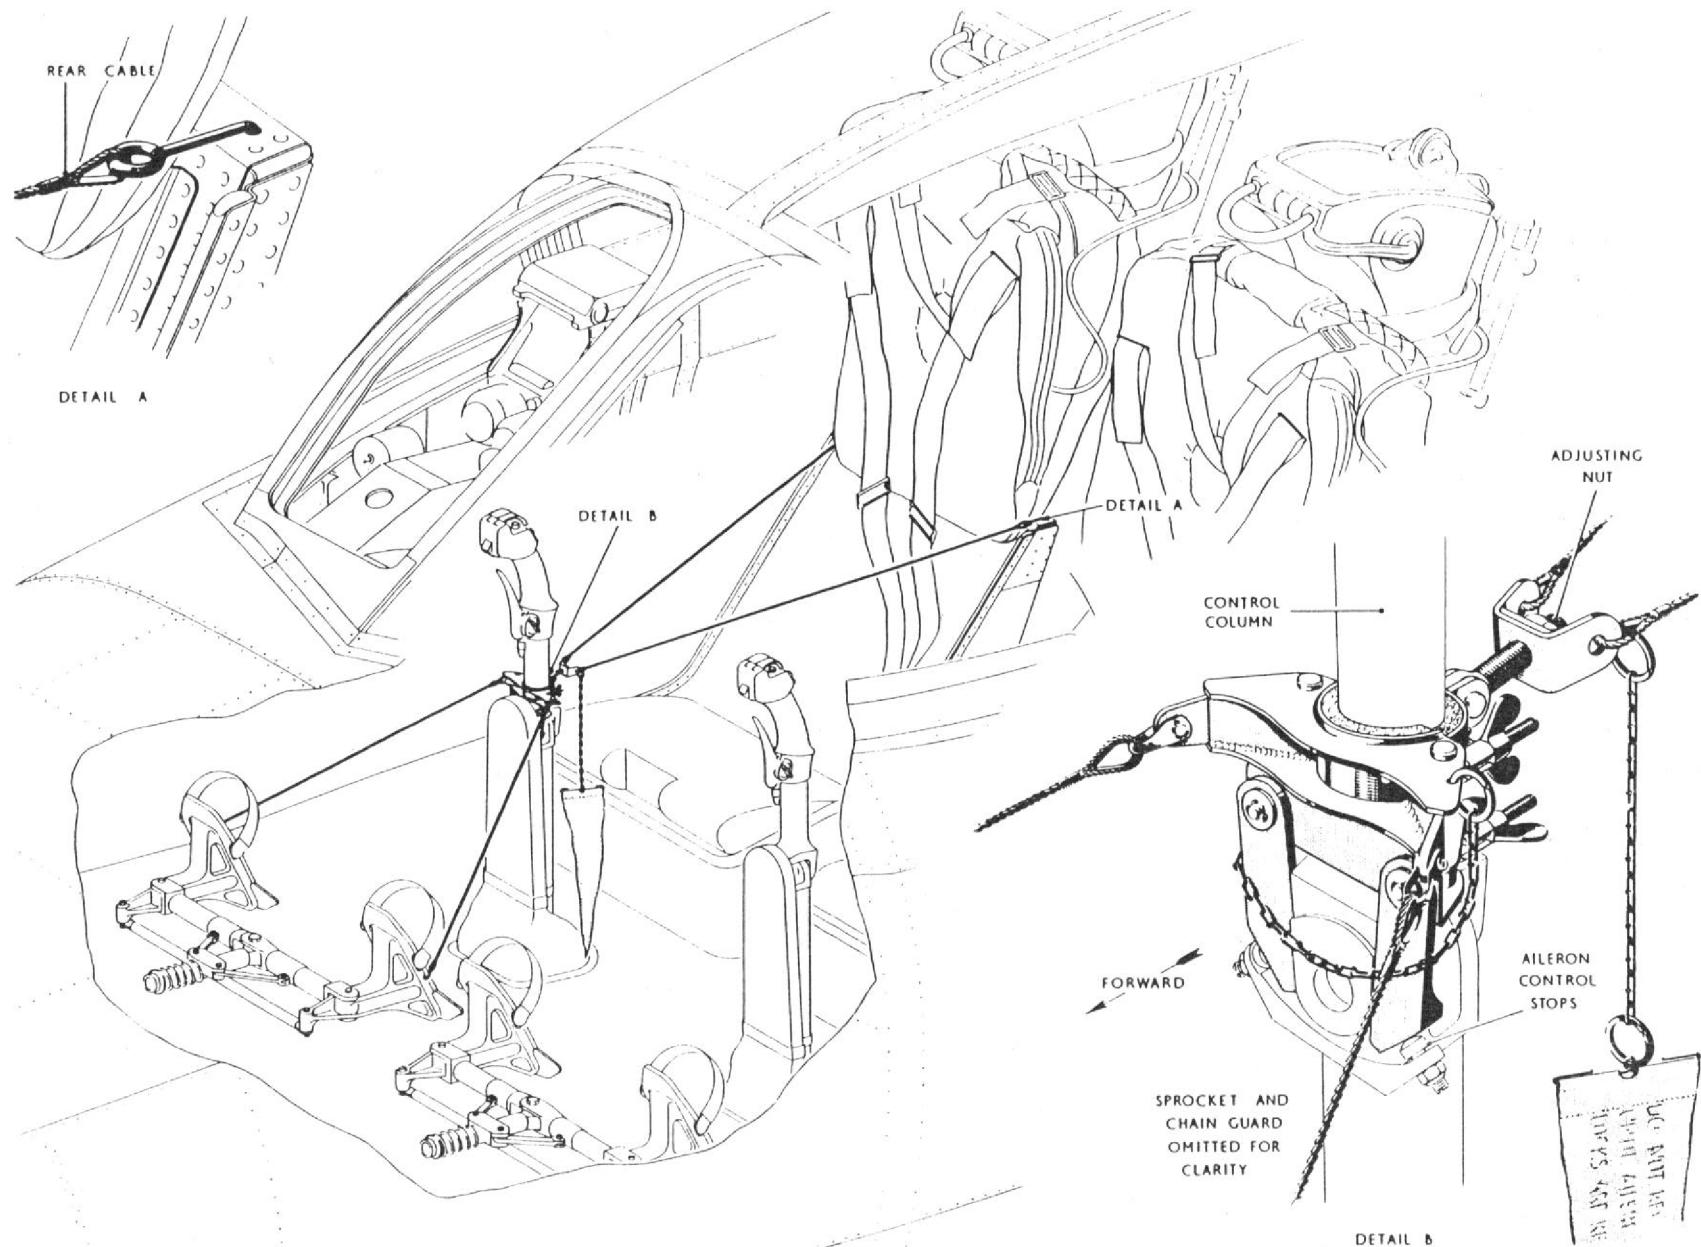

Fig. 3 Flying controls locking gear
**Flying controls locking gear (fig. 3)**